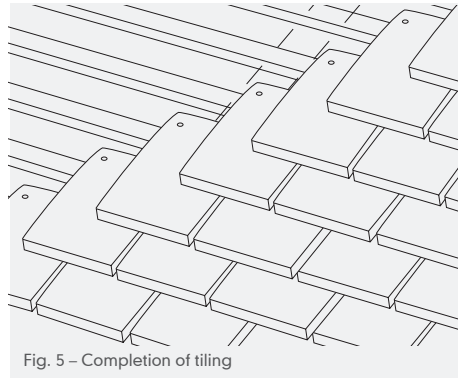

Fig. 5 - Completion of tiling
- 2 Plain tiles can be laid right to left (Fig 5) or left to right. Depending on the fixing specification, tiles can be left out to expose the battens for safe working, and filled in later when details at the ridge, hip, valley etc. have been completed.